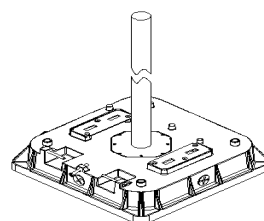

FIG.2
3. Fixed the light to the ceiling by the 3/4" conduit FIG.2